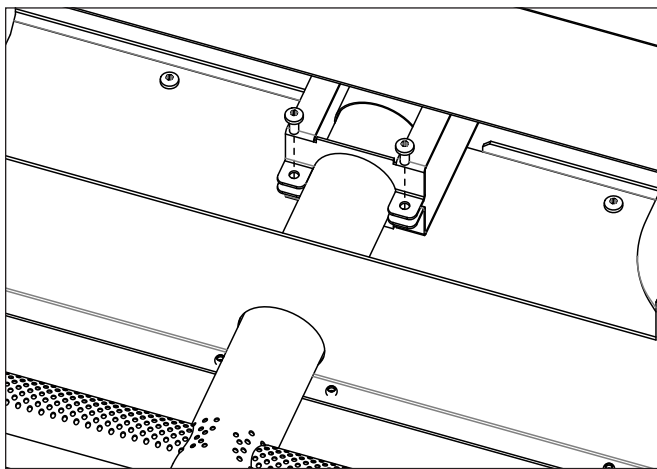
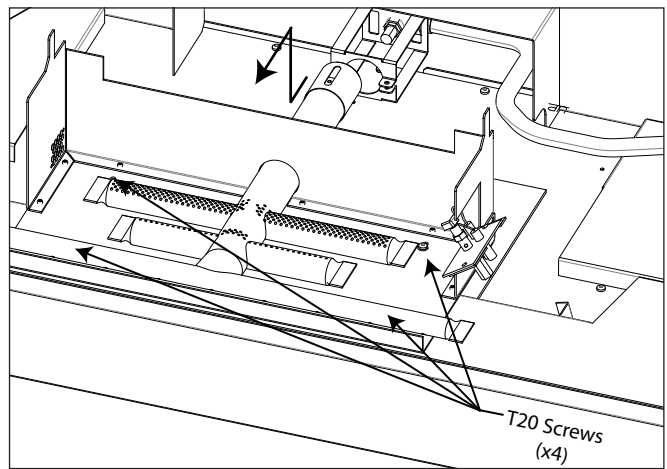

Figure 9: Orifice Mount Clamp
Figure 10: Log Burner Removal
6. Remove the two (2) T-20 screws securing the orifice mount clamp onto the burner (see Figure 9).
7. Remove the two (2) T-20 screws securing the pilot assembly to the burner.
8. Loosen the four (4) T-20 screws securing the burner to the firebox (see Figure 10). The burner has keyslot holes that allow the burner to then be removed without fully removing the screws.